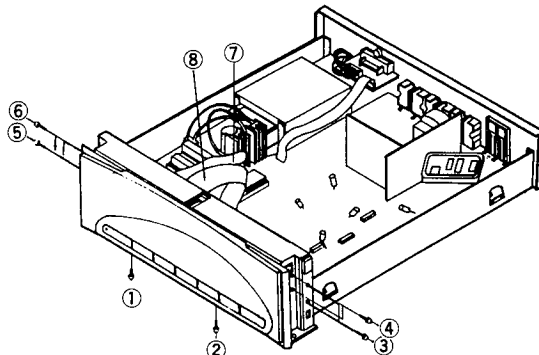

Fig. 3
1. Remove connectors ⑦ to ⑧ in Fig. 3
2. Remove screws ① to ⑥, and then remove the front panel assembly from the unit in Fig. 3
1. Remove the front panel assembly in Fig. 3. (Refer to step 4)